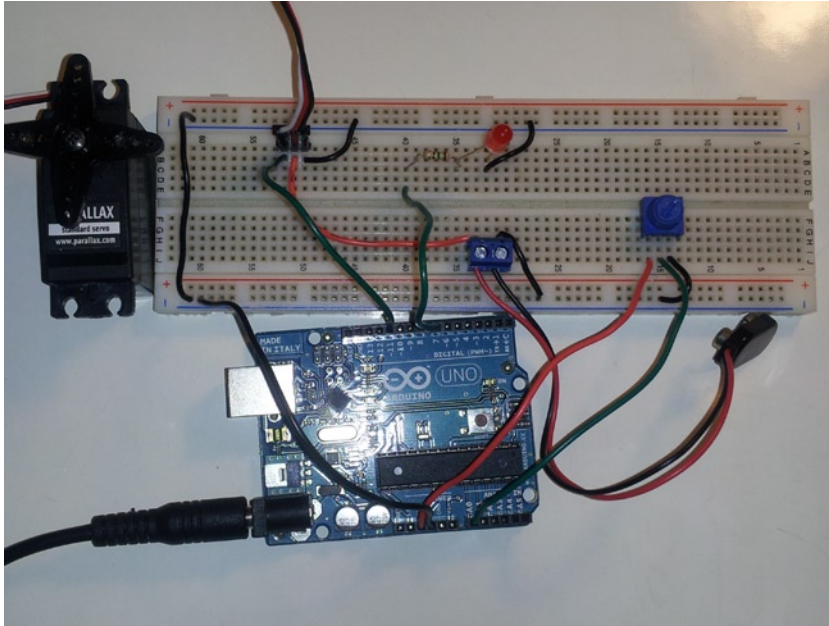

Figure 23-17. *The finished circuit*
16. And that's it! The Challenge 6 gizmo is completed, and Figure 23-17 shows how the final circuit should look.